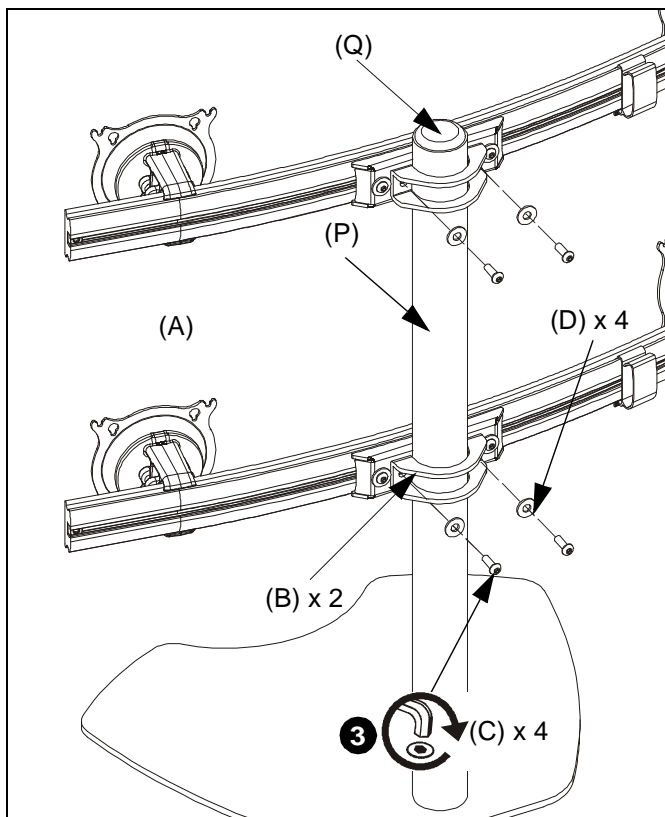

Figure 2
2. Assemble two pole clamp backs (B) to two array assemblies (A) using four 1/4" washers (D) and four 1/4-20 x 3/4" button head cap screws (C) using a 5/32" hex key (F). (See Figure 2)
3. Secure array clamps (B) to array assemblies (A) and pole by tightening four 1/4-20 x 3/4" button head cap screws (C). (See Figure 2)